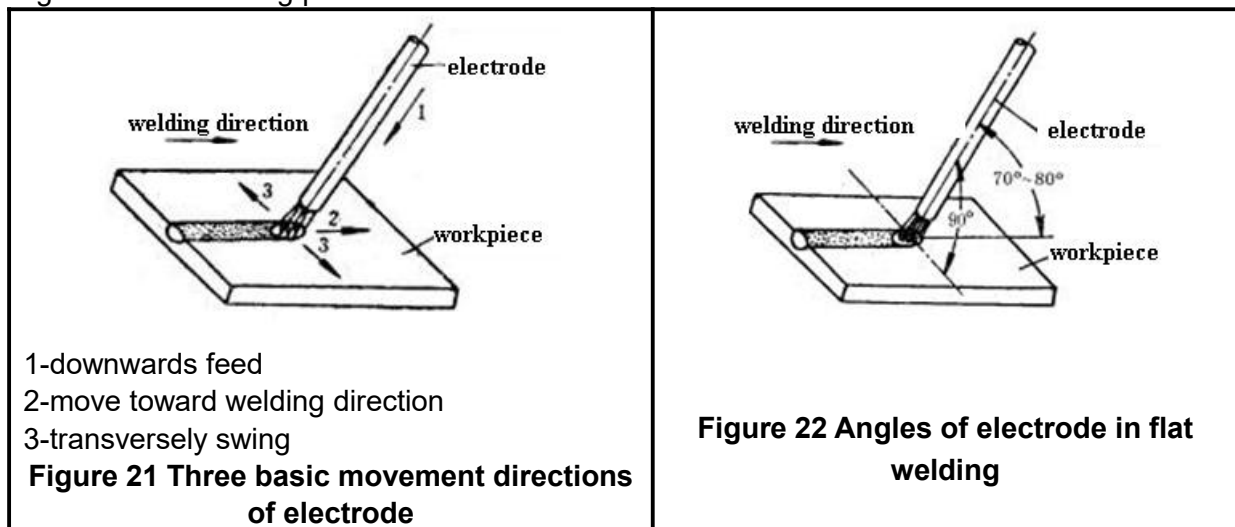

Figure 22 Angles of electrode in flat welding
- Welding angle: the electrode should be inclined in $70^{\circ} \sim 80^{\circ}$ forwards. (See Figure 22)